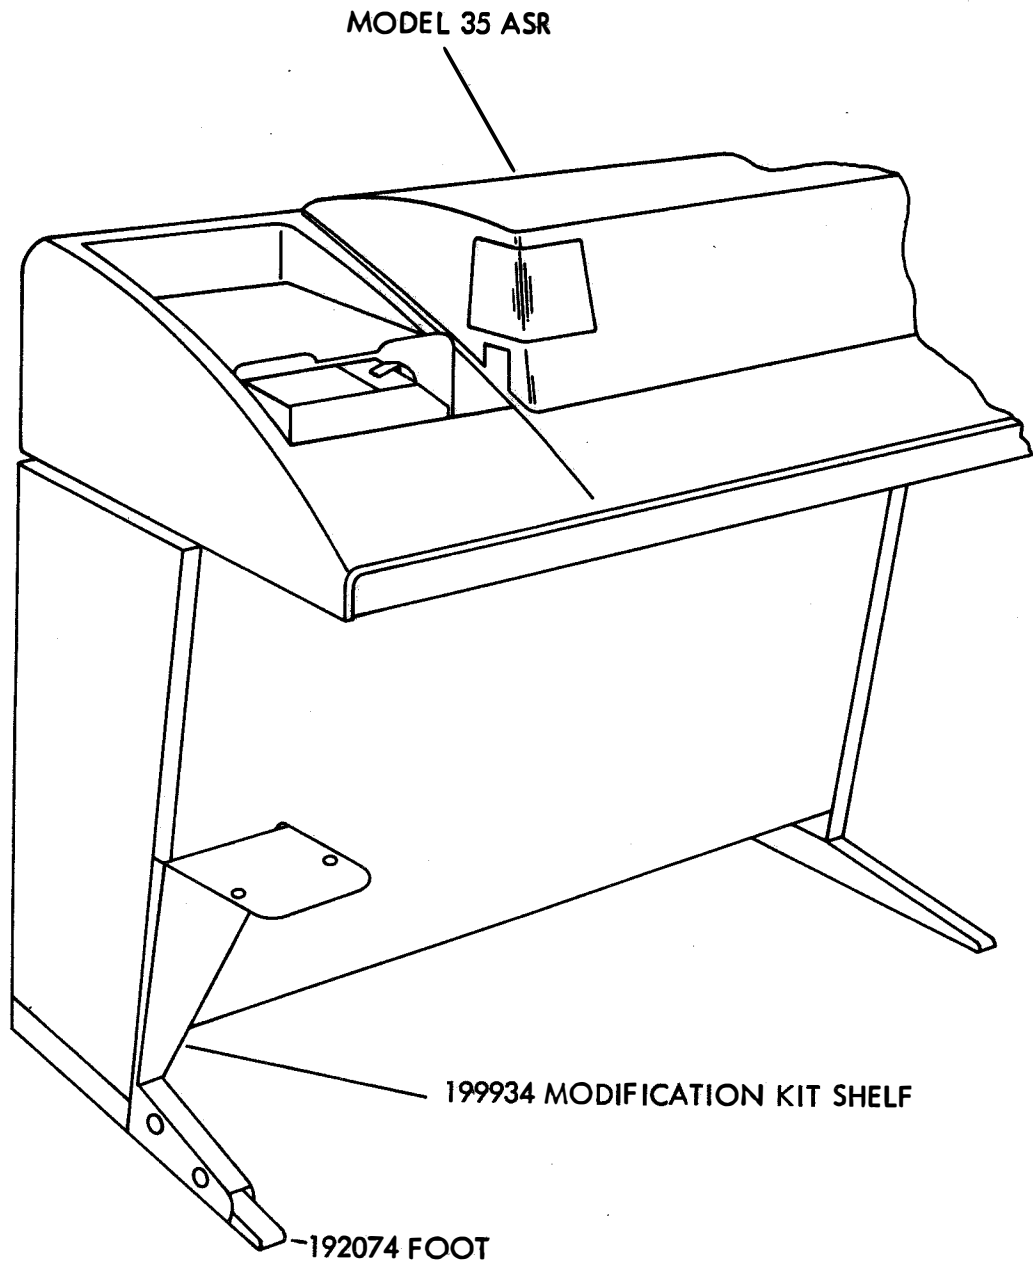

FIGURE 1
2. INSTALLATION (Figures 1 and 2)
a. Locating Posts 194575 are provided for use with tape winder Models TW200, TW203, TW204 and unwinder 146892. For other devices these posts are not used. Fasten the 194575 posts as shown in Figure 1.